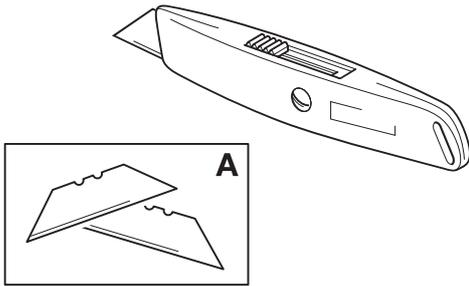

Fig 7. Craft Knife
- d Craft Knife.** ⇒ Fig 7. \(□ B-30\). The blades **A** are replaceable.